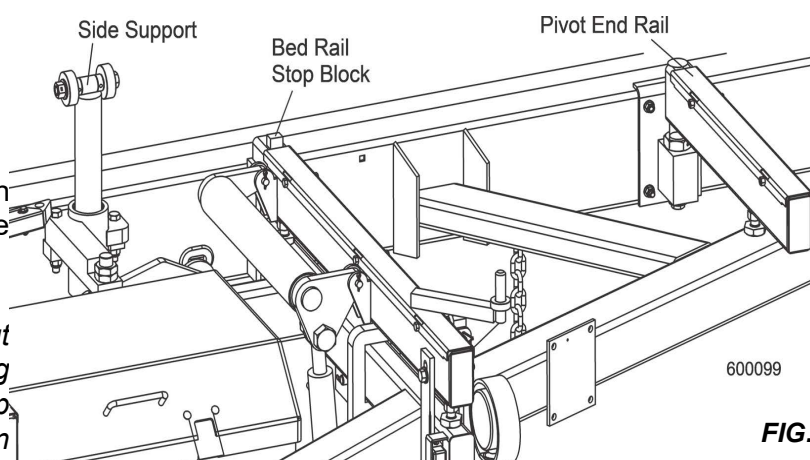

FIG. 3-4
9. Raise the side supports to prevent a log from falling off the side of the mill when loaded. See FIG. 3-4.